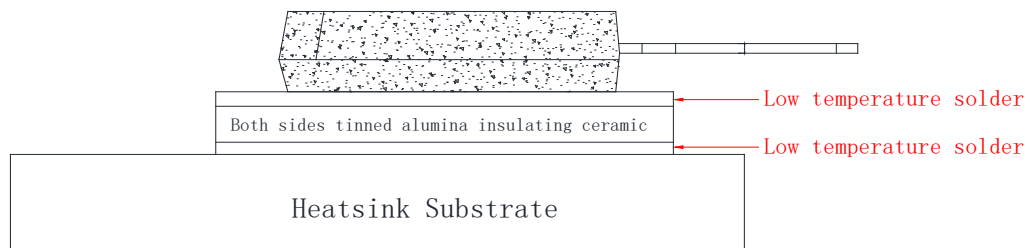
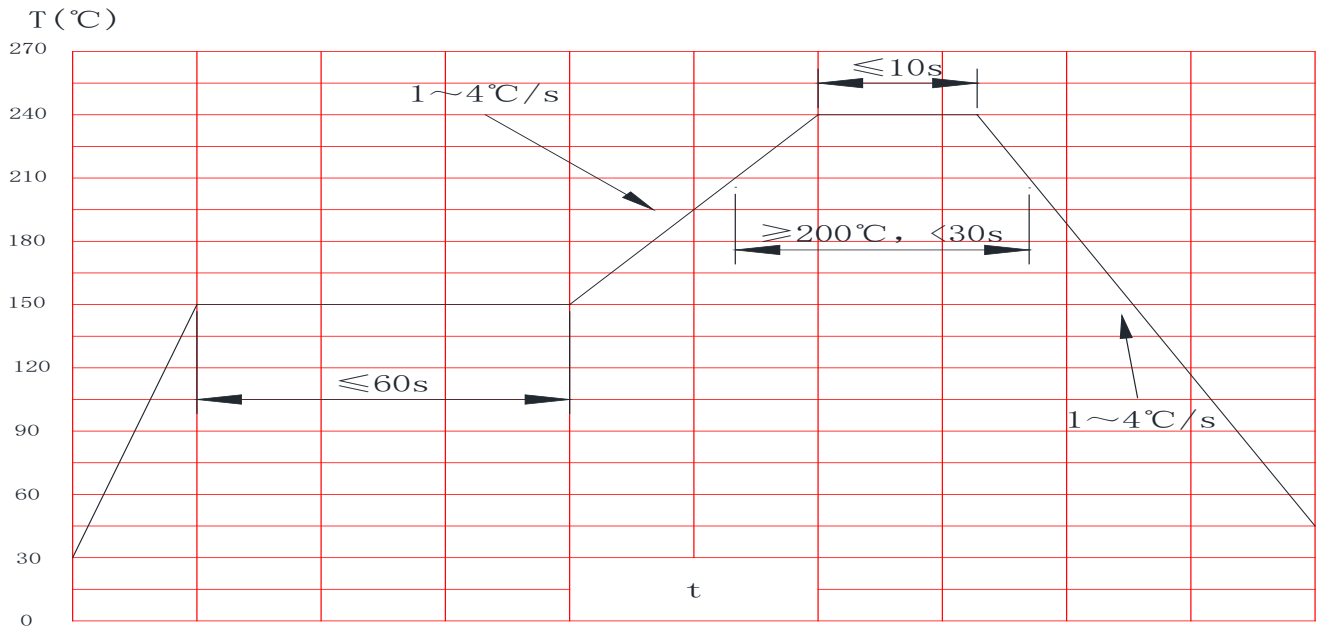

Fig. 19 Soldering the heatsink substrate, the insulating ceramic sheet and device
Fig. 20 Reflow thermal profile
2. Use solderable materials (such as Cu) for the heatsink substrate and 0.5 ~ 1.0mm thick tinned alumina ( $Al_2O_3$ ) for the insulating ceramic sheet. Solder the heatsink substrate, the insulating ceramic sheet and devices together, as shown in Figure 19. See Figure 20 for soldering requirement.
- Reflow thermal profile, as shown in Figure 20.